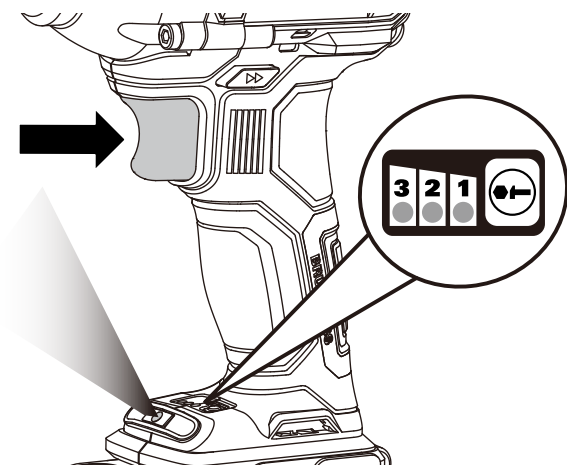

Figure 7
3. ON/OFF SWITCH (SEE FIG. 7)
4. VARIABLE 3-SPEED CONTROL BUTTON (SEE FIG. 7)
5. USING THE LED LIGHT (SEE FIG. 7)